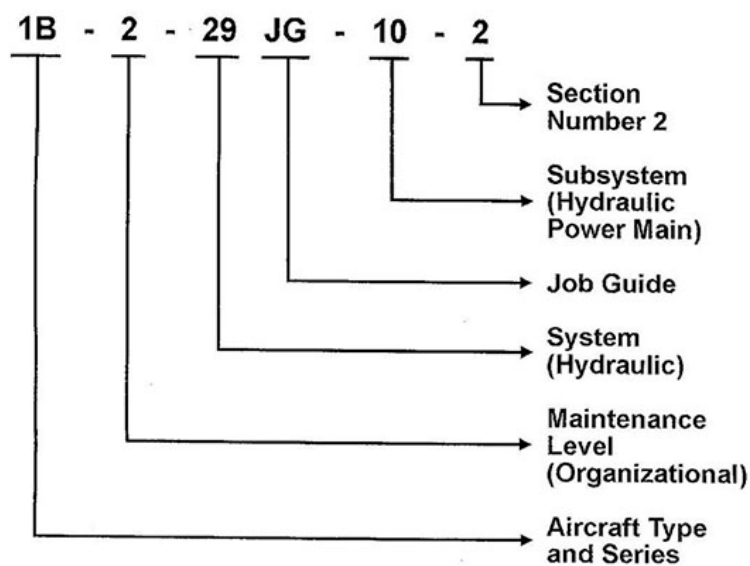

Figure 1-5. MIDAS technical order number.
As you go through this lesson, you will see there are differences between this system and the one discussed in the last lesson. In this lesson, we refer to the F-16 TOs because they are representative of most of the newer aircraft in the AF inventory. Most weapon systems are either currently using or going to use this TO system. In this lesson we cover each of the different types of TOs and their functions. By understanding both systems, you will be able to troubleshoot and repair any aircraft. The Maintenance Integrated Data Access System (MIDAS) TO numbering system is similar to the basic TO numbering system in that the aircraft designation codes are the same for both. Unless TOs are for specific components, such as flight controls, all aircraft TOs start with the TO category, type of aircraft, model, and production series code. For instance, you can tell that TO 1F-16A-3 contains maintenance instructions for the F-16 aircraft. But after the 1F-16A-3, the remaining portion of the TO numbers are based on the MIDAS system. Figure 1-5 shows a MIDAS TO number breakdown.
The MIDAS TO number is a six-digit numbering system expressed by three elements of two digits each. Look again at figure 1-5 to see what each element stands for. Consider this example: 28-40-00. The first two digits represent the major system, in this case the fuel system. The third digit (4) indicates the fuel indicating system, which is a subsystem of the fuel system. The fourth digit (0) indicates a sub-subsystem. The last two digits (00) represent the function number that is tied to the job guide (JG) manuals and are used for operational checks or repair of aircraft systems. The MIDAS number appears on the lower outer corner of every page of pertinent manuals. This provides a ready reference index number from one manual to another. For instance, using MIDAS number 28-40-00, you would refer to job guide 1F-16A-2-28JG-40-1 to work on the fuel indicating subsystem within the fuel system.